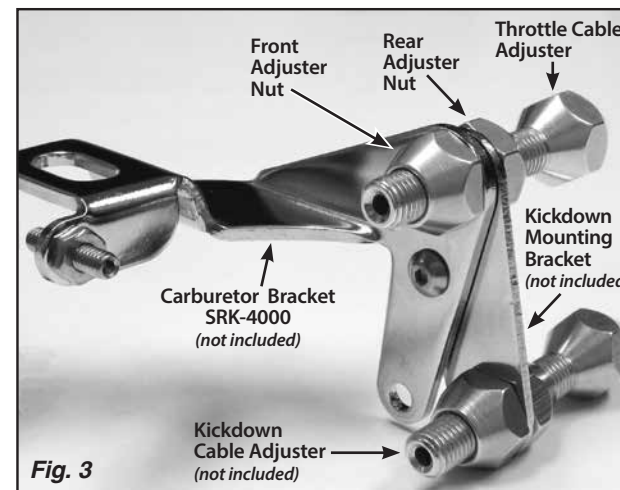

Fig. 3
**Step 5:** Remove the front adjuster nut from the throttle cable adjuster and insert the throttle cable adjuster into the Carburetor Bracket. (**NOTE:** If a Lokar Kickdown Kit is being used, install the kickdown mounting bracket onto the back side of the Carburetor Bracket first.) Then, position the rear adjuster nut so that the threaded part of the throttle cable adjuster is approximately centered in the Carburetor Bracket. Reinstall the front adjuster nut. **Fig. 3**